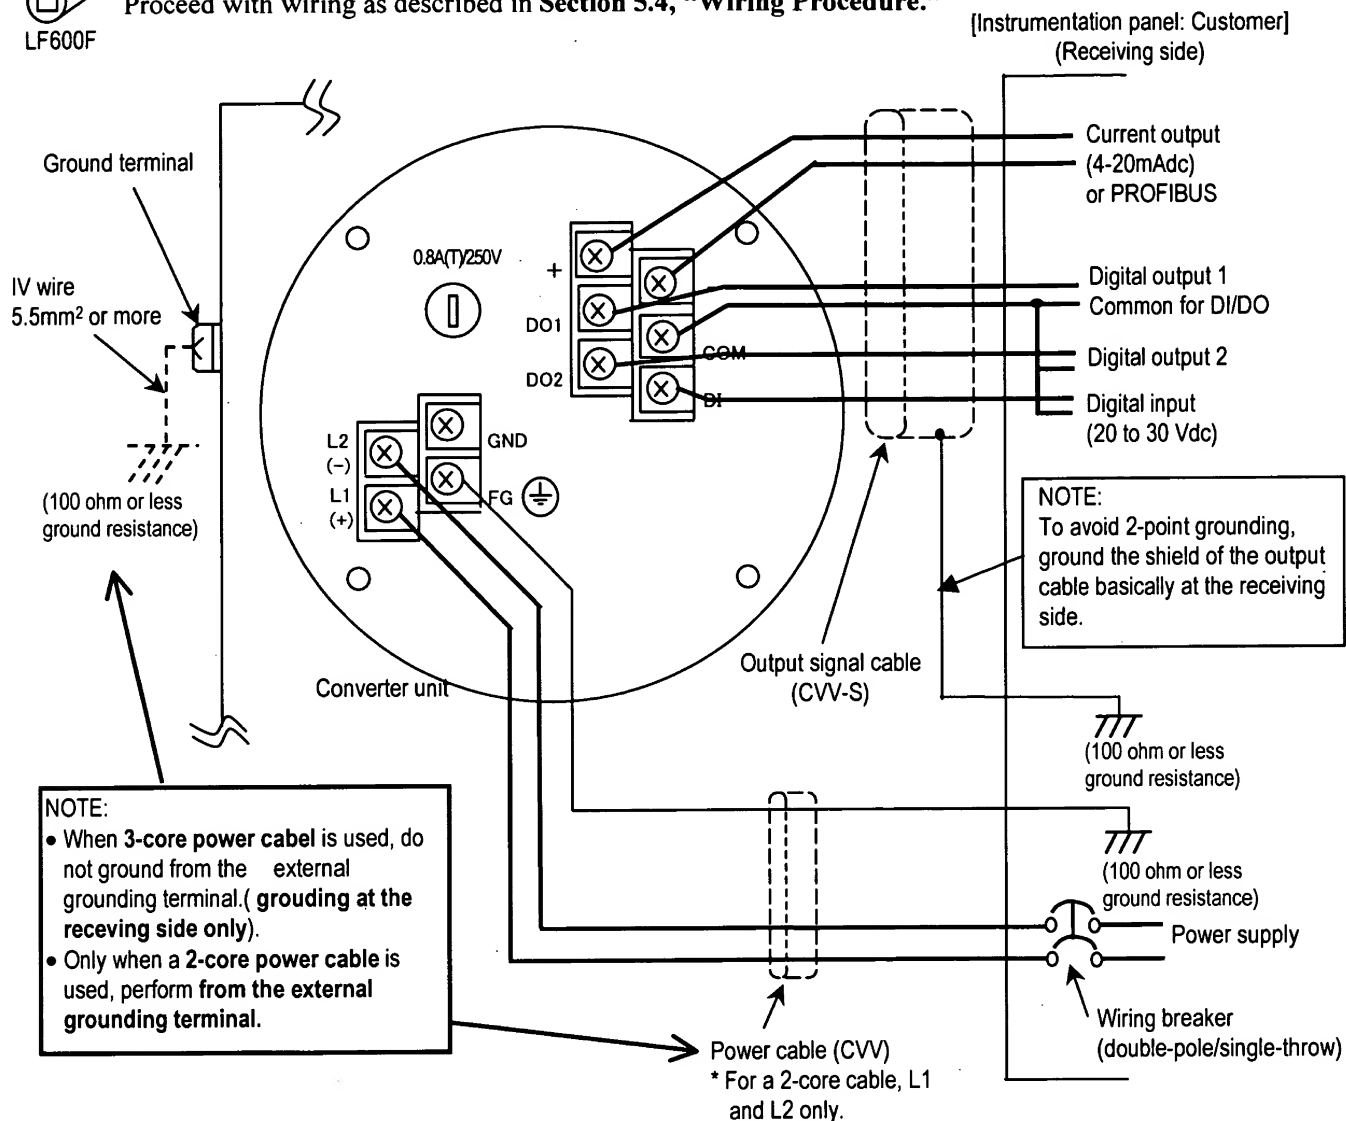

Figure 5.1 External Wiring Schematic Diagram
The terminal board connections of an integral type converter LF600F are shown in Figure 5.1. Proceed with wiring as described in Section 5.4, "Wiring Procedure."
* Use a heavy copper braid or wire (cross-sectional area **5.5 mm² minimum**) to ground the terminal and make it **as short as possible** as shown in Figure 5.1 for **grounding**. Also, **Avoid a common ground** where earth current may flow. (An **independent ground** is preferable.)
The terminal board connections of separate type converter LF602F are shown in Figure 5.1. Proceed with wiring as described in Section 5.4, "Wiring Procedure."